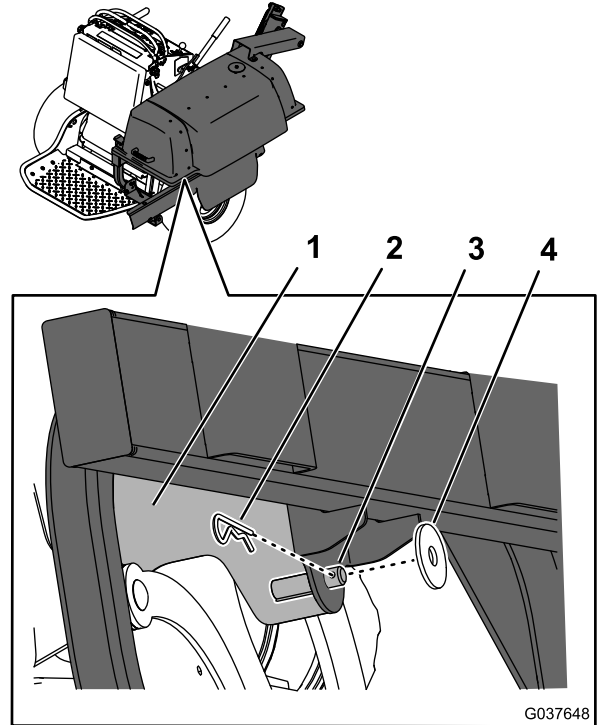

Figure 14
2. Secure the frame to the pin on the rear mount bracket using a thrust washer and hairpin cotter (Figure 14).